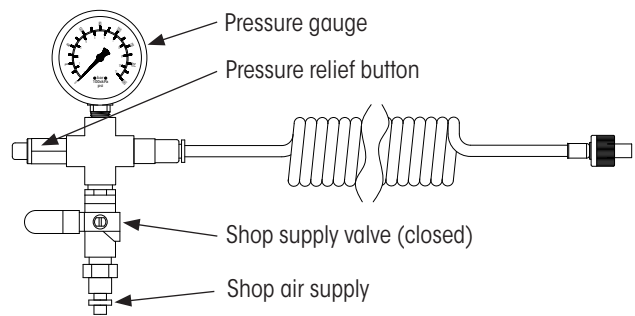

Figure 47: TIREMAAX PRO target gauge VS-32331
- TIREMAAX PRO target gauge (Figure 47).
IMPORTANT: The TIREMAAX PRO target gauge (Figure 47) is required for this procedure.
6. **Connect** shop air to PRO target gauge shop air supply port, Figure 47.